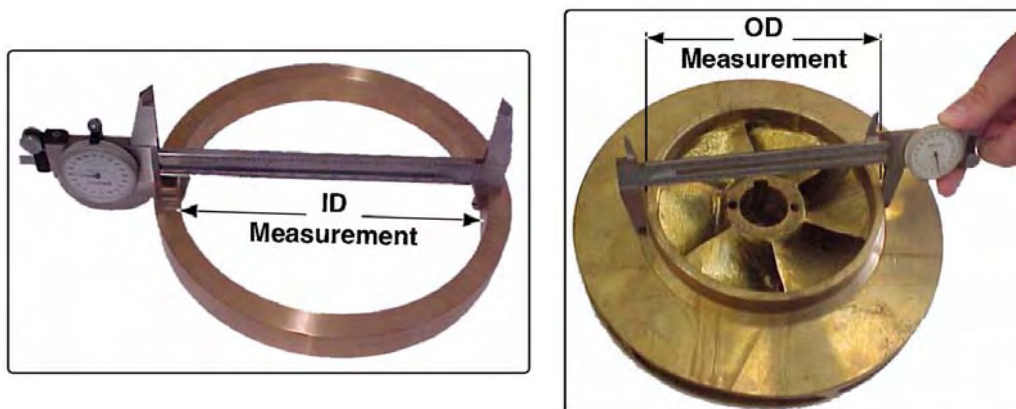

Figure 6-7: Clearance Ring and Impeller ID / OD Measurement
7. Inspect the front clearance ring for wear and replace accordingly. (See Figure 6-7: "Clearance Ring and Impeller ID / OD Measurement" on page 84.)
6. Inspect the rear clearance ring for wear and replace accordingly. (See Figure 6-7: "Clearance Ring and Impeller ID / OD Measurement.")
(See Figure 6-7: "Clearance Ring and Impeller ID / OD Measurement.")
Inspect the front and back of both clearance ring IDs and ODs in several places for signs of wear. Using a caliper, measure the inside diameter of each ring in several places. (See Figure 6-7: “Clearance Ring and Impeller ID / OD Measurement” on page 84.)